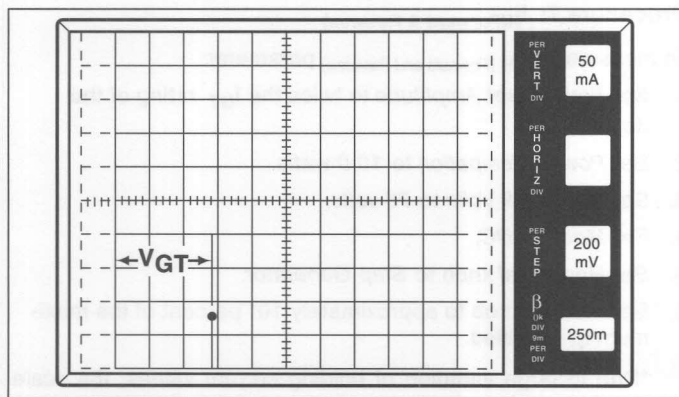

Figure 19.8 V_{GT} is 580mV
4. Gradually increase *Offset Multiplier* until device reaches the conduction point (See Figure 19.8.) Measure V_{GT} by following horizontal axis to the point where the vertical line crosses axis. This measured value is V_{GT} .